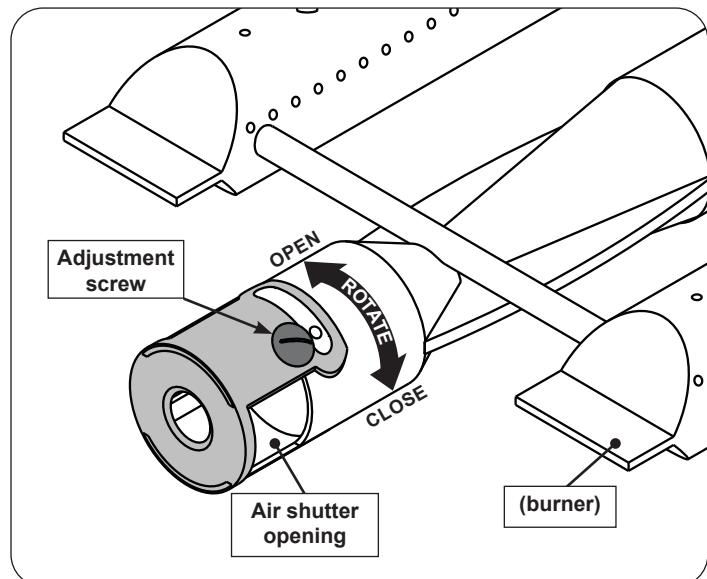

Fig. 45-2 Main burner air shutter adjustment detail
1. To adjust the air shutter, loosen the adjustment screw with a flathead screwdriver. Then rotate the shutter to open or close it. See Fig. 45-2 for details.